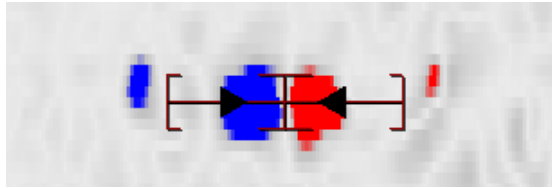

Figure 18. Length arrows on the Lg C-scan
- ii) The start and/or end of a crack. The start/stop position might not be correct for intermittent cracking but also cracking occurring at the edge of the scan. The gray arrows on the C-scans will move as these parameters are adjusted (Figure 18).